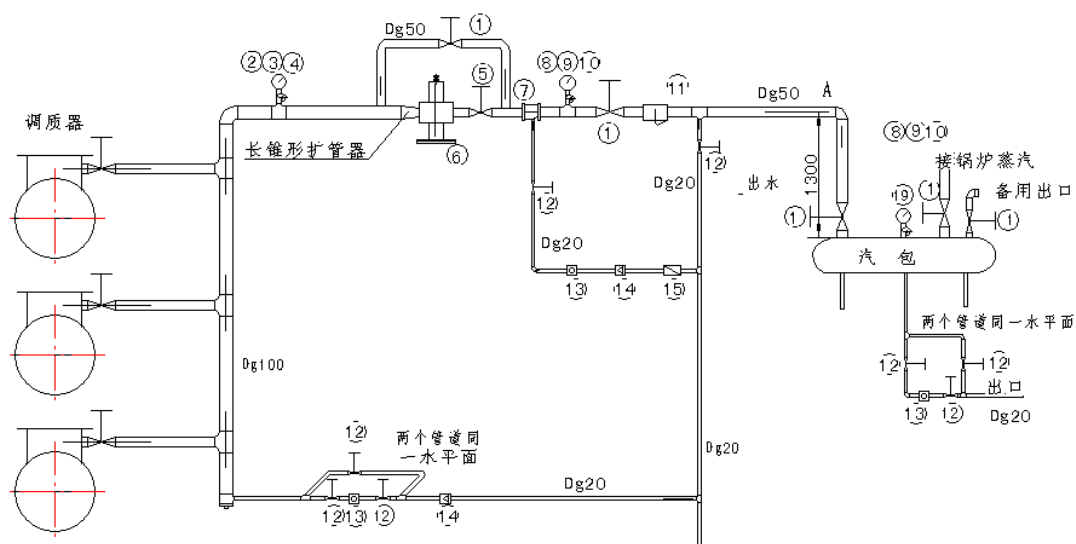

Fig.10 Steam pipeline process flow
4.1.3 Generally pellet mill is positioned on the floor where dimension should be digged with proper size of 500x300mm. See Figure 10 for the outlet.